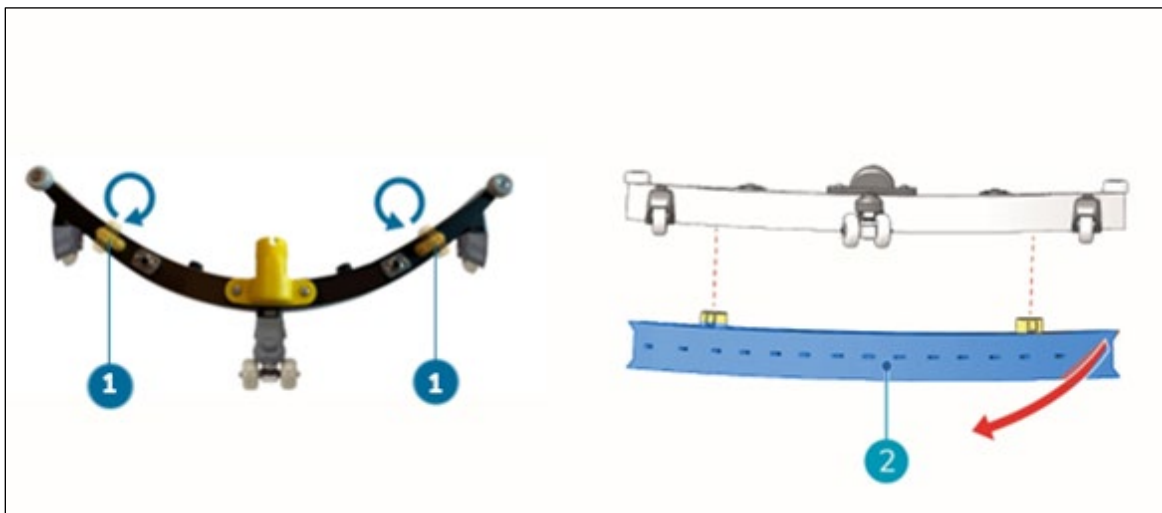

Figure 41
2. When the unit has been removed from the scrub deck, turn simultaneously the two yellow knobs on the top of the squeegee-unit to align the surface of the squeegee (Figure 41, pos. 1). The squeegee blades holder will detach from the squeegee blade unit. Now the squeegee blades are exposed.
3. Pull the front and rear rubber squeegee blades from the metal nobs of the holder (Figure 41, pos. 2).